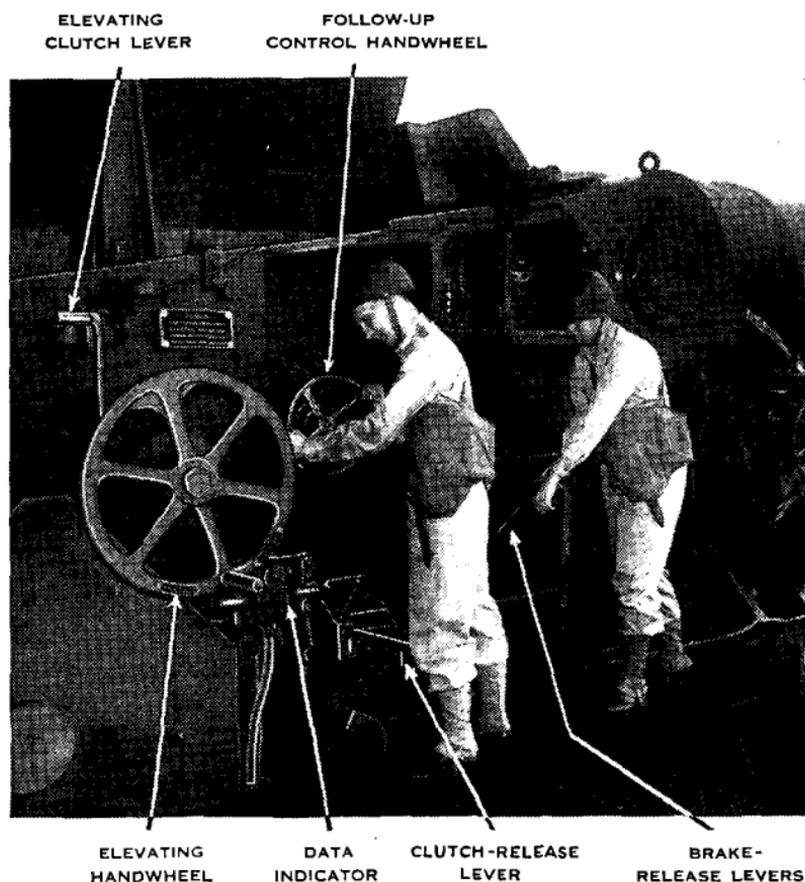

Figure 14. Elevating the gun.
12. ELEVATION SETTER. a. The elevation setter is charged with the duty of setting the piece in elevation. He is responsible to the gun commander for the proper operation, care, and adjustment of the elevation data indicator and the elevating mechanism (fig. 14). For detailed duties of the elevation setter, see the drill table, appendix III.
25. ELEVATING MECHANISM. a. *To elevate by power* (fig. 14), the elevation setter first sees that the elevating clutch lever is in the POWER position and then presses the START button to activate the elevating motor. Turning the follow-up control handwheel counterclockwise will elevate the gun. As long as the handwheel is in motion the gun will move. To hold the gun at a certain elevation, the follow-up control handwheel need only be stopped.